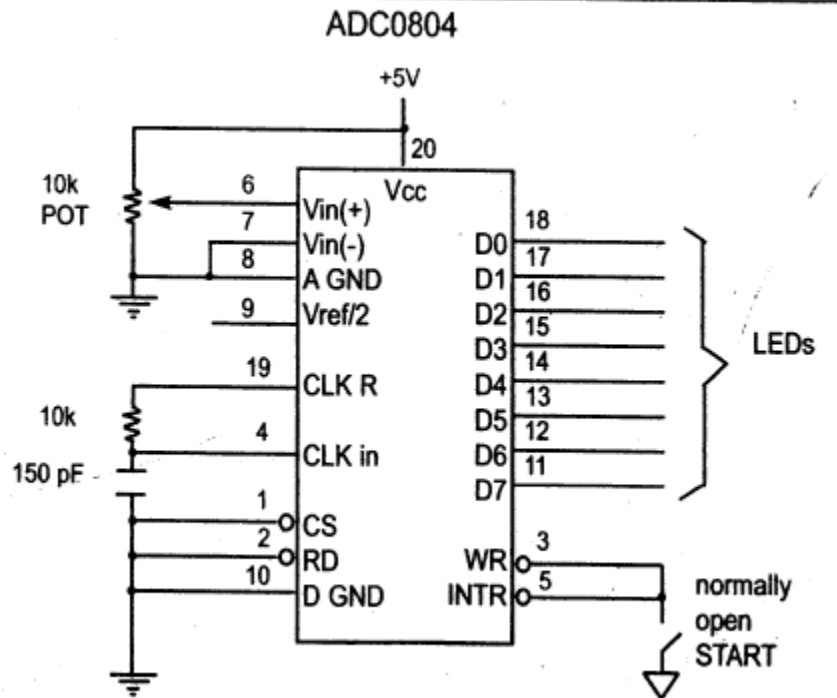

Figure 5.5 ADC804 Chip (Testing ADC804 in Free Running Mode)
- Figure 5.5 Pin out of ADC804 in free running mode.